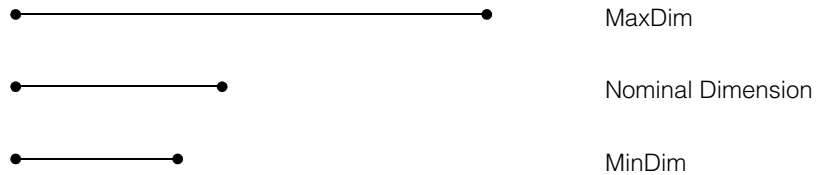

Figure 86. Absolute limits on the nominal dimension of a segment
- As absolute limits on the nominal dimension of the segment. In this case the length of the segment is limited between the interval MinDim and MaxDim, where MaxDim = maximum segment dimension and MinDim = minimum segment dimension. The nominal dimension of the segment must be between MinDim and MaxDim as shown in Figure 86.